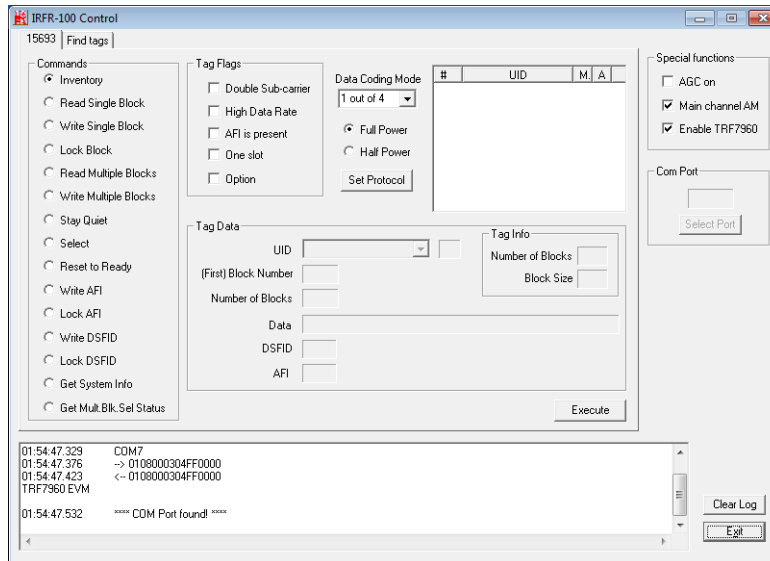

Figure 3-21: IRFR Screen
Step 4: The IRFR-100 window appears (**Figure 3-21**).